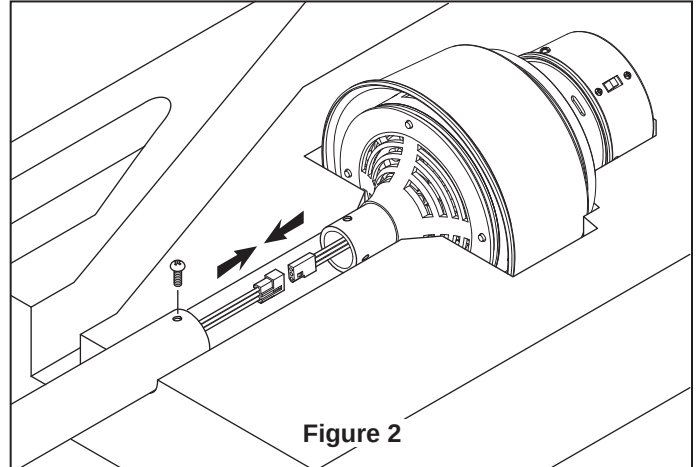

Figure 2
4. Position the bottom end of the extension pole inside the housing support located at the center of the horizontal tube assembly. It may be necessary to loosen the two screws that go through the horizontal tube assembly if the extension pole does not slide into the housing support easily without scratching the finish. Connect the extension pole to the housing support using the two $\frac{1}{4}$ " x $2\frac{3}{16}$ " socket head bolts and locking nuts. Securely tighten both bolt and nut sets (Figure 2).
3. Hang the Crossbar / Pole Assembly (assembled earlier) into the the hanger bracket. Make sure the groove of the hanger ball is positioned on the tab of the hanger bracket. (Figure 2)
4. **Carefully ROTATE** the Hanger Bracket and Crossbar / Pole Assembly together to orientate the fan in the desired position. (Figure 2)
2. Using the styrofoam pad provided, position one motor at each end of the tube assembly. Securely attach plug from motor to socket on tube assembly. (Figure 2)
4. Align holes of tube with holes of motor assembly and install three screws at each motor. Do not over-tighten. (Figure 2)